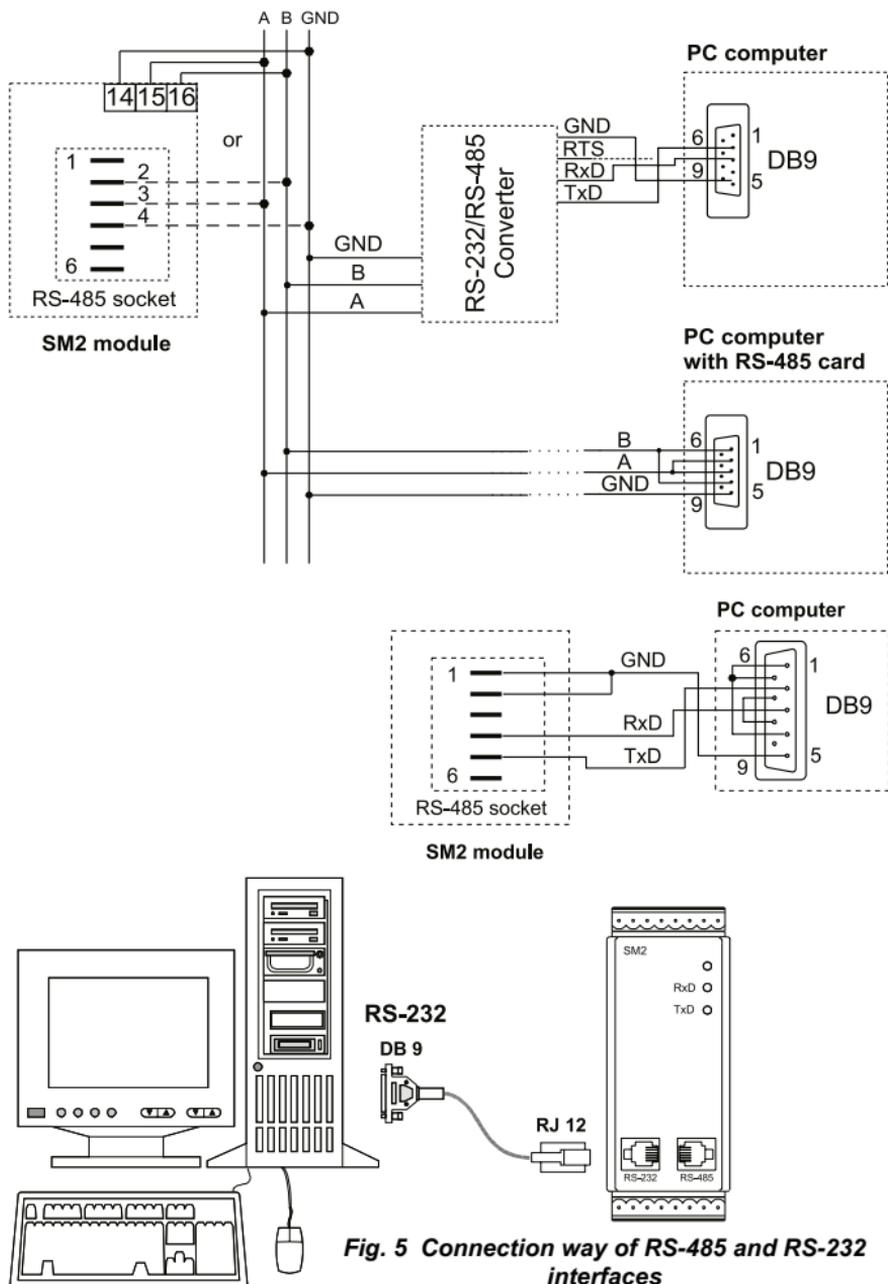

Fig. 5 Connection way of RS-485 and RS-232 interfaces
- The RS-232 socket serves only to connect the device (Fig.5) working with the MODBUS protocol. When the module is not used place the hole plug in the RS-232 socket of the module.
The way of the interface connection is given in the user's manual (fig.5). To obtain the correct transmission, it is necessary to connect **A** and **B** lines in parallel with their counterparts in other devices. The connection must be carried out with a screened wire. The screen must be connect to the protective terminal in a single point. The **GND** line serves to the additional protection of the interface line at long connections. One must connect it to the protective terminal (it is not necessary for the correct interface work). To obtain the connection with the PC computer through the RS-485 port, an RS-232/RS-485 converter (e.g. PD51) or an RS-485 interface card is indispensable. The marking of transmission lines for the card in the PC computer depends on the card manufacturer. To obtain the connection through the RS-232 port, the wire added to the module is sufficient. The connection way of both ports (RS-232 and RS-485) is shown on the fig. 5.